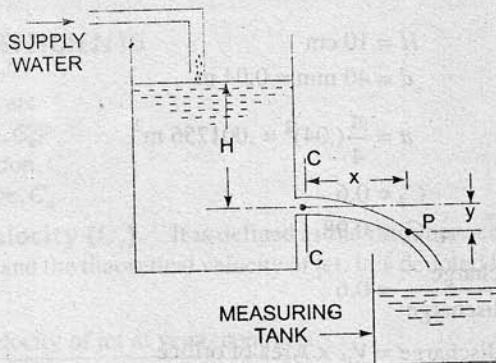

Fig. 7.2 Value of  $C_d$
**7.5.1 Determination of  $C_d$ .** The water is allowed to flow through an orifice fitted to a tank under a constant head,  $H$  as shown in Fig. 7.2. The water is collected in a measuring tank for a known time,  $t$ . The height of water in the measuring tank is noted down. Then actual discharge through orifice,
**7.5.2 Determination of Co-efficient of Velocity ( $C_v$ ).** Let  $C-C$  represents the vena-contracta of a jet of water coming out from an orifice under constant head  $H$  as shown in Fig. 7.2. Consider a liquid particle which is at vena-contracta at any time and takes the position at  $P$  along the jet in time ' $t$ '.